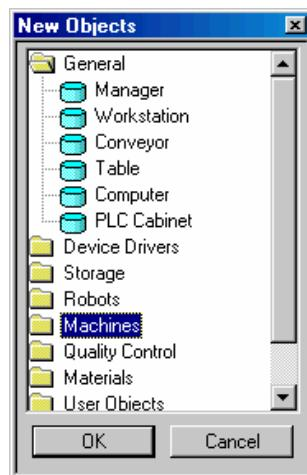

Figure 8-10: New Objects Dialog Box
1. Select **Edit | New Object**. The **New Objects** dialog box is displayed as shown in *Figure 8-10: New Objects Dialog Box*.
1. Select **Edit | New Object**. The **New Objects** dialog box is displayed as shown in Figure 8-10: New Objects Dialog Box
1. Select **Edit | New Object** The New Objects dialog box is displayed, as shown in Figure 8-10: New Objects Dialog Box.